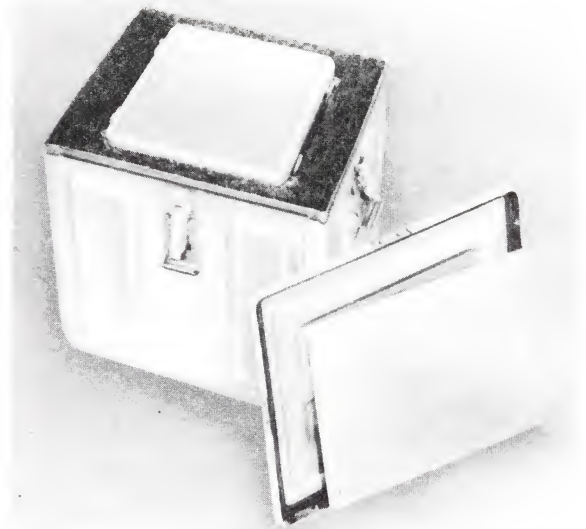

Figure 4-5. S-As in Outer Container.
**4-1.3.2 S-A Container.** Four S-As, packed in vibration-absorbing and shock-absorbing material, are packed in the Inner Container Mk 127 Mod 0, figure 4-4. Normally, five inner containers are packed in each Outer Container Mk 2 Mod 0 (ammunition component box), figure 4-5.